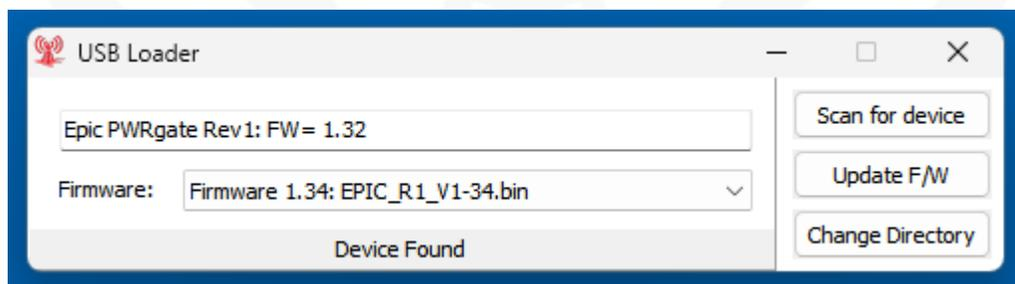

Figure 5
7. Click on OK in the information window to continue. You should see the USB Loader window appear on the screen (figure 5). The current version of firmware loaded on your Epic is shown and below that, the new version of the firmware to replace it. If for some reason you do not see your Epic you can try the “Scan for device” button. If that still fails to show your Epic then you may have made a misstep in the updating procedure. Try starting the whole procedure again.